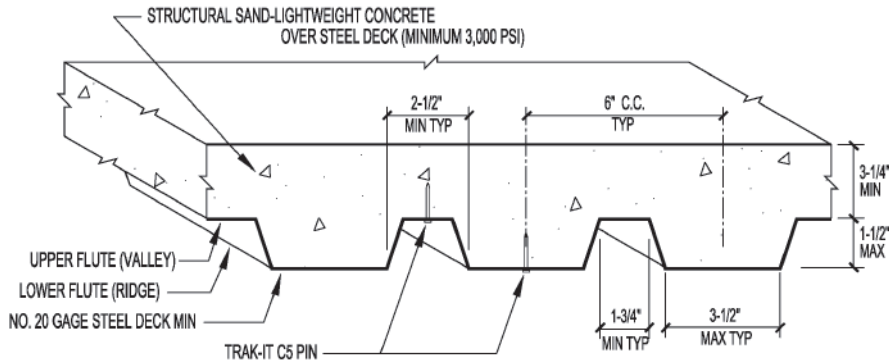

Figure 1: Fastener installation location in 1-1/2 - inch deep composite deck.
- The steel deck must have a minimum base material thickness of 0.034 inch, minimum yield strength, Fy, of 33ksi, and conform to the profile shown in Figure 1. Concrete fill must be at least 3-1/4 inches above the top flutes.